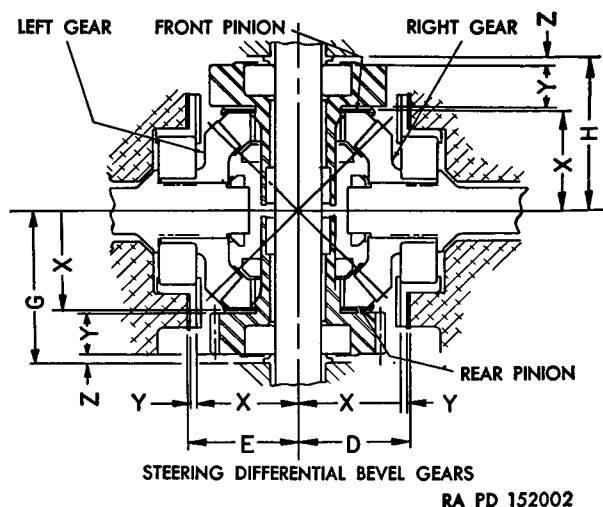

Figure 263. Steering differential inspection chart.
- (10) To determine the nominal shim pack for the rear-steering bevel gear (fig. 263), place the rear sleeve, flange side up, on a surface plate. Place the spur gear and ball bearing assembly on top of the sleeve so that the ball bearing inner race is against the sleeve.
- (11) Measure and record the distance from the bottom side of the flange on the sleeve, to top side of the spur gear. Label this measurement $Z + Y$. To this measurement add the dimension X , the mounting
- Refer to figure 263 and *b* (7) through (9) above.
- (3) If the gear or the bearing cage has not been replaced, refer to (4) below for the assembly of the left steering cross-shaft. If it is necessary to determine the nominal shim, measure and record the thickness of the bearing-cage flange. This measurement is dimension *Y*. Add the gear mounting distance, dimension *X*, which is stamped on the gear, to the dimension *Y*. Subtract (*X*+*Y*) from the dimension *E* which is given on the left housing. The result will be the nominal shim pack required. The formula is $E - (X + Y) = \text{Shim}$.
- (4) Wire the shim pack to the bearing cage for safekeeping.